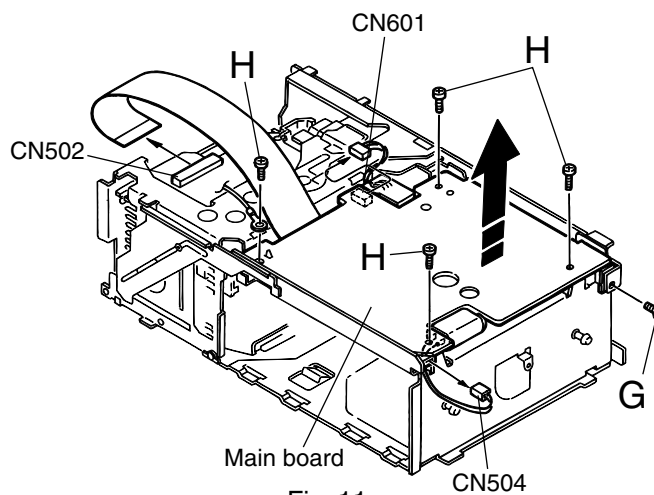

Fig. 11
■ Removing the main PCB assembly (See Fig.11)